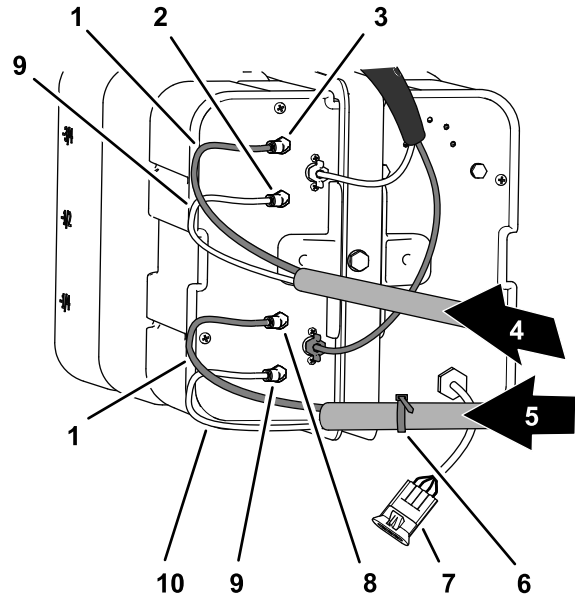

Figure 16
1. At the connection panel of the compressor for the foam-marker kit, secure a cable tie around the clear and blue tubing for the right-spray section (Figure 16).